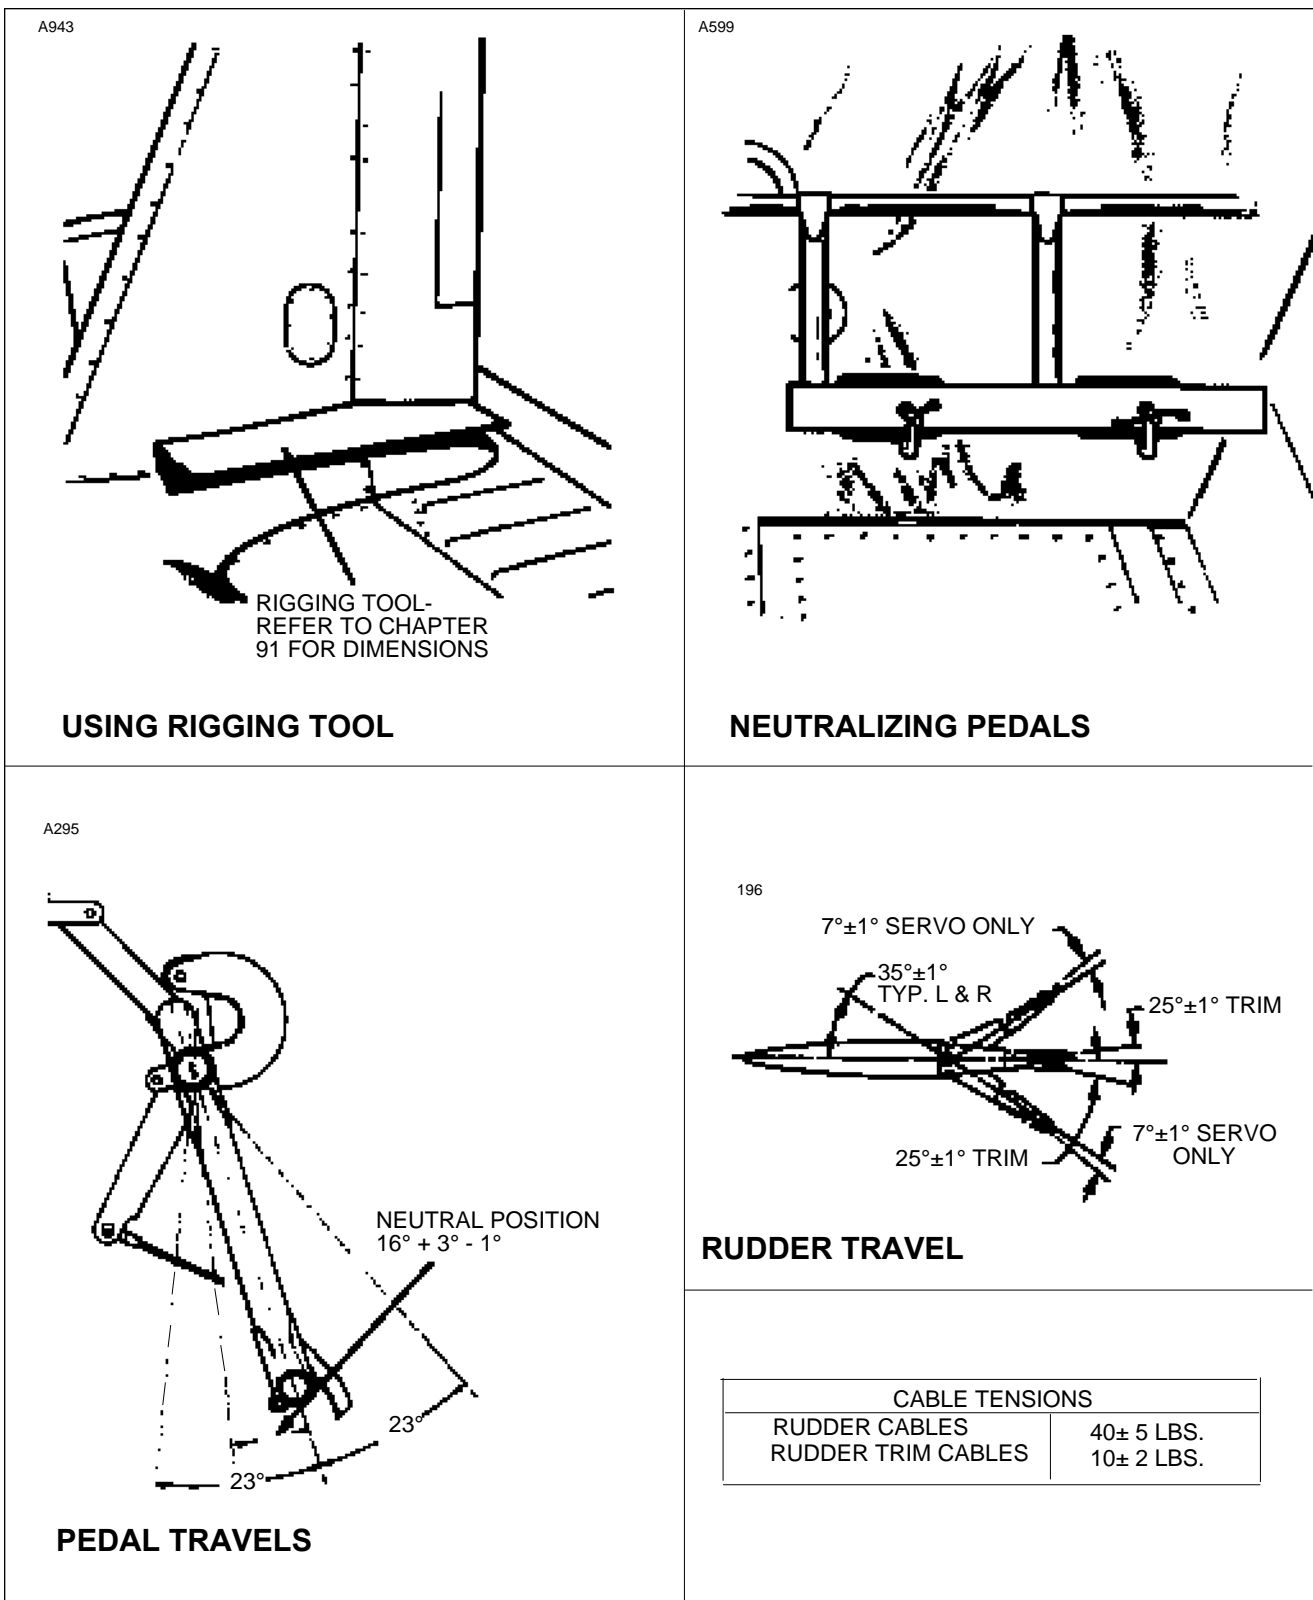

Figure 27-14. Rigging Rudder and Controls
- g. Set cable tension as given in Figure 27-14 and check rigging and adjustment. Safety the turnbuckle.
- e. Set cable tension as given in Figure 27-14 and check rigging and adjustment of the rudder controls. Safety the turnbuckle.
RIGGING AND ADJUSTMENT OF RUDDER PEDALS. (Refer to Figures 27-14 and 27-15.)
- a. Swing the rudder until it contacts the stop and hold it in that position. Refer to Figure 27-14 for travels.
- b. Using the rigging tool as shown in Figure 27-14, align the tool at the root against the side of the vertical stabilizer and rudder, making sure to keep it clear of rivets.
- c. Secure the rudder pedals in their neutral position as shown in Figure 27-14. If the nose gear steering is found to be out of alignment refer to Chapter 32 for adjustment.
- f. Set trim cable tension in accordance with specifications given in Figure 27-14 and check rigging and adjustment of rudder trim controls. Safety both turnbuckles.